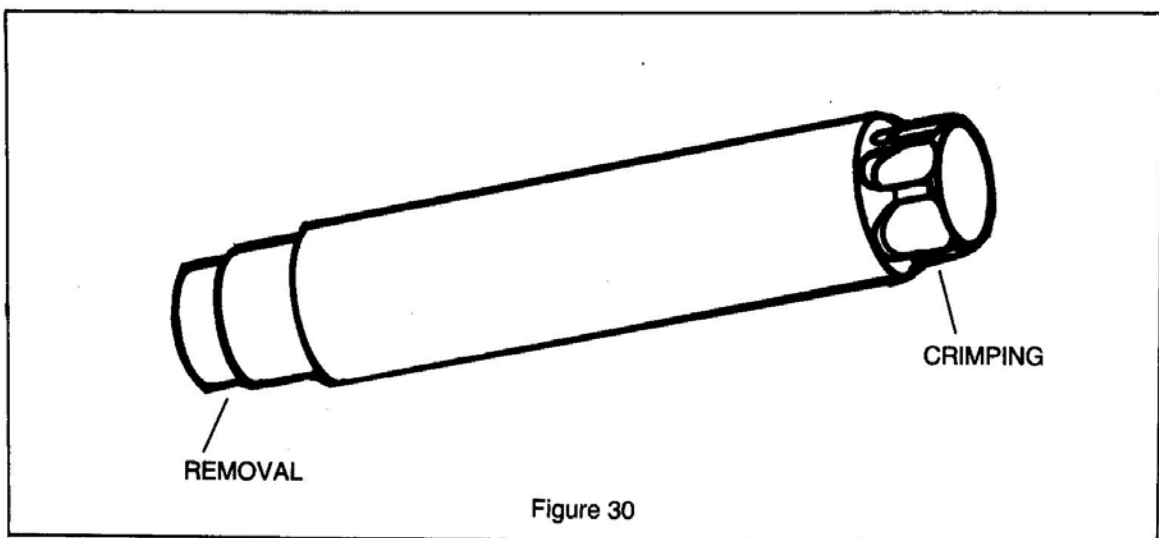

Figure 30
-Remove the brass plunger guide. Rapidprint tool #607T-1 is available for this purpose upon request (*figure 30*). Turn the frame upside down and insert the narrower end of the tool into the plunger guide. Tap with a hammer until the plunger guide protrudes from the top of the frame sufficiently to take hold and pull it out.